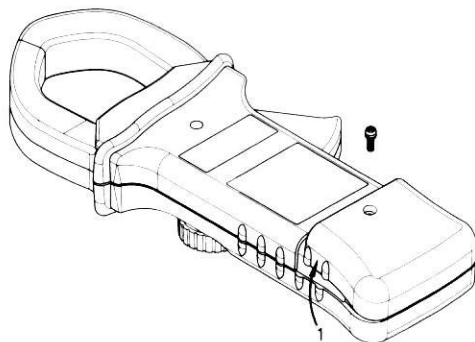
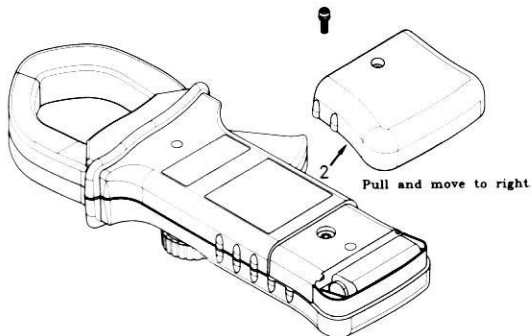

Figure 4. Step 1 of Battery Replacement.
Figure 5. Step 2 of Battery Replacement.
Push POWER switch to toggle ON/OFF transducer. When the transducer switched on the Green LED will light. When the Red LED is lit and the Green LED is off, the battery voltage is too low for normal operation. The battery should be changed as described in Battery Replacement. Refer to Figure 5.
2. Loosen screw of battery cover. Pull up the cover slightly, see **Figure 4**. Then Pull and Move the cover to right direction, see **Figure 5**.